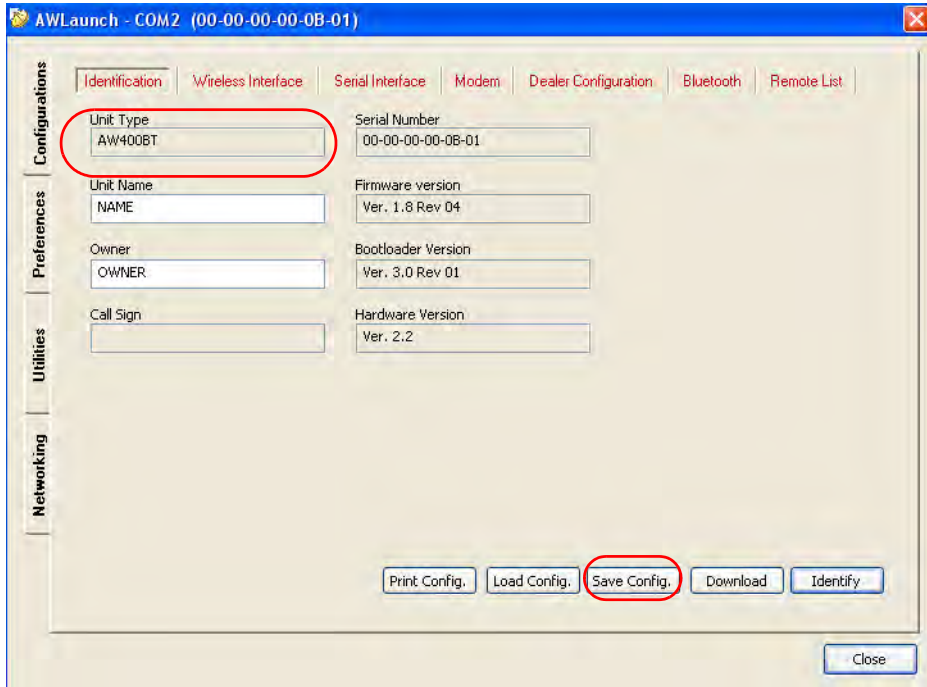

Figure 2-6. Identification tab
- Once the connection is established in the *Configurations* tab *Identification* subtab the unit's information will appear (Figure 2-6), i.e. unit serial number, firmware, hardware and boot loader versions: